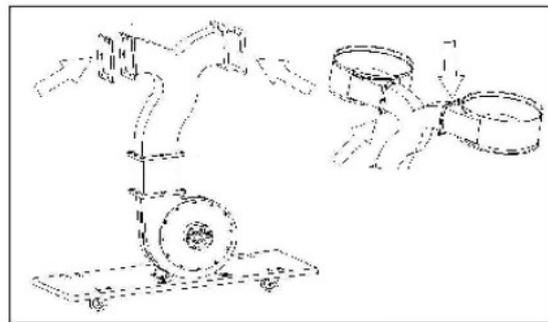

Fig5
Now install the two collectors (C) and two gaskets (I) to the outlet as shown in Fig 5.